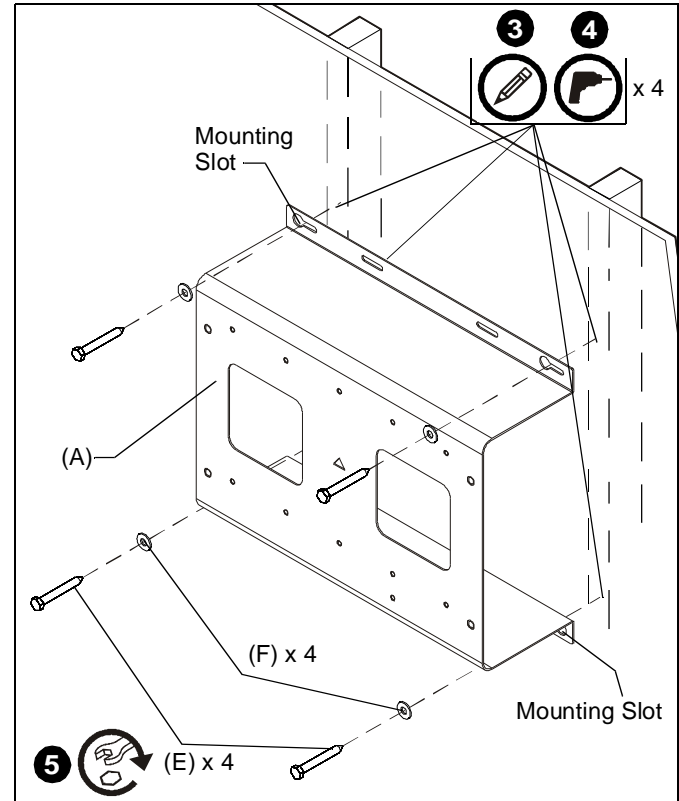

Figure 1
3. Using a level, mark the wall on each stud above existing whiteboard through four mounting slots in the WBAP bracket (A) mounting slots. (See Figure 1)
4. Drill one 7/32" x 2-1/2" pilot hole at each of four markings made in Step 3. (See Figure 1)
5. Use four 5/16" x 2-1/2" lag bolts (E) and four 5/16" flat washers (F) to attach WBAP bracket (A) to wall. (See Figure 1)